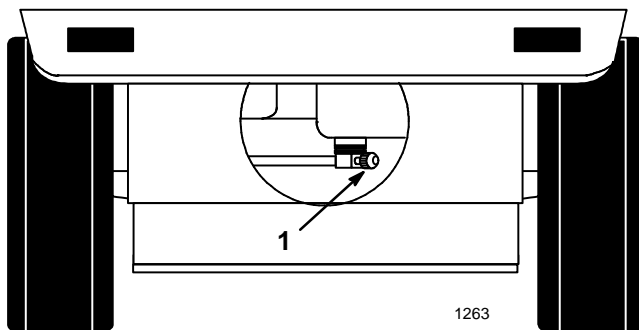

Figure 29
2. Close fuel shut-off valve at fuel tank (Fig. 29).
7. Open fuel shut-off valve at fuel tank (Fig. 29).